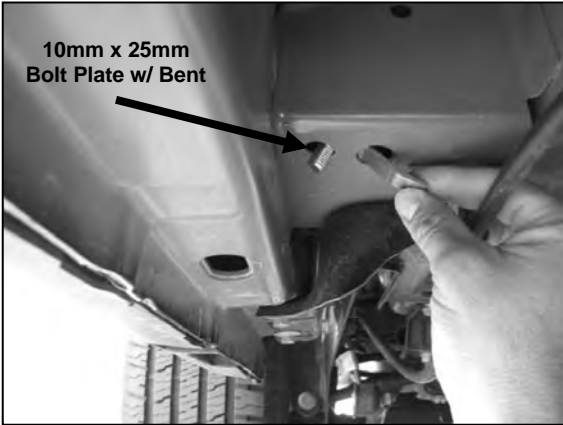
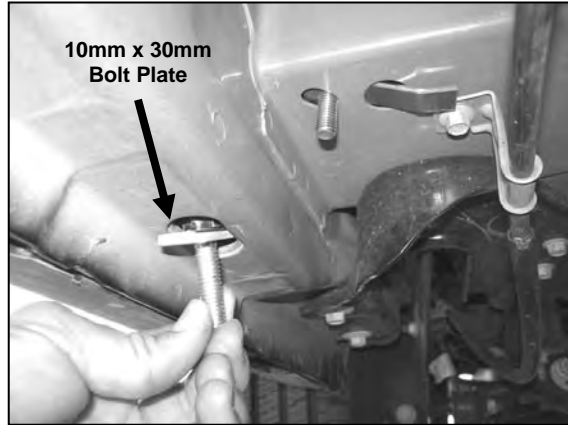

Figure 5
Figure 6
- The passenger rear Mounting Bracket mounts with two Bolt Plates. Insert (1) 10mm x 25mm Bolt Plate w/ Bent into the two factory holes on the cross member (**Figure 5**). Insert (1) 10mm x 30mm Bolt Plate into lower factory hole on the side panel (**Figure 6**).